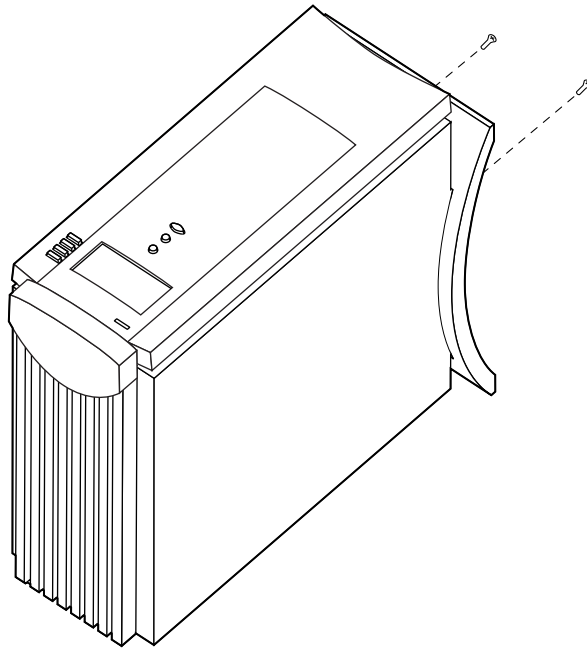

Figure 2-3 Attaching the Fiery XJ-R/R2 stand
- 1. Set the Fiery XJ-R/R2 on a flat surface, with the front of the chassis facing up (see Figure 2-3 below).**